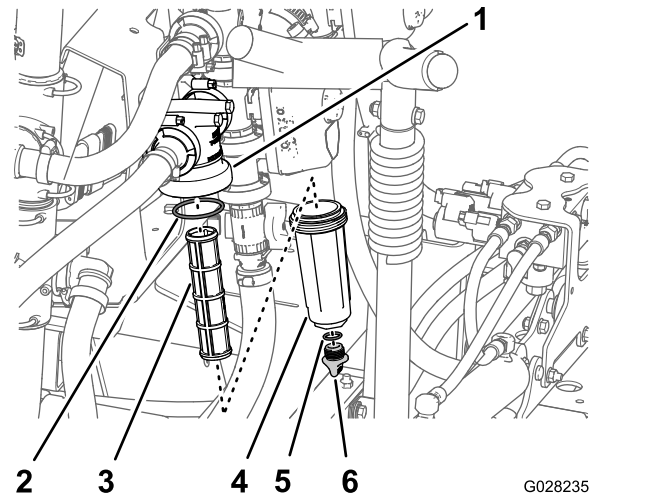

Figure 105
2. Align a drain pan under the pressure filter (Figure 105).
3. Rotate the drain plug counterclockwise and remove it from the bowl of the pressure filter (Figure 105).
4. Rotate the bowl counterclockwise and remove it from its filter head (Figure 105).
5. Remove the old pressure-filter element (Figure 105).
6. Check the O-ring for the drain plug (located inside the bowl) and the O-ring for the bowl (located inside the filter head) for damage and wear (Figure 105).
7. Install the new pressure-filter element into the filter head (Figure 105).
8. Install the bowl onto the filter head and tighten by hand (Figure 105).
9. Install the plug into the bowl and tighten by hand (Figure 105).